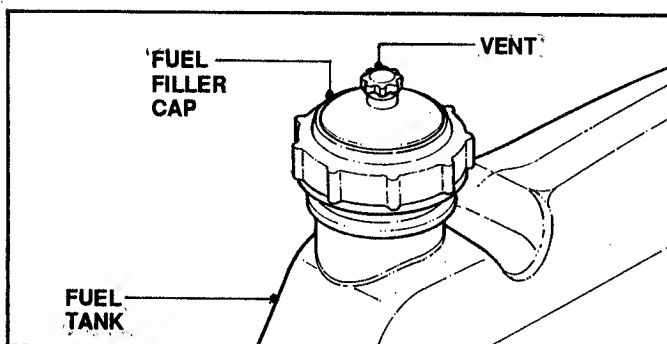

FIGURE 2.2
- G. Add fuel to tank after pushing the Rear Engine Rider outside where fumes can dissipate. Make sure fuel cap is tight, vent is open and fuel valve is "ON" after refueling. Refer to engine owner's manual for fuel specifications. See Figure 2.2.